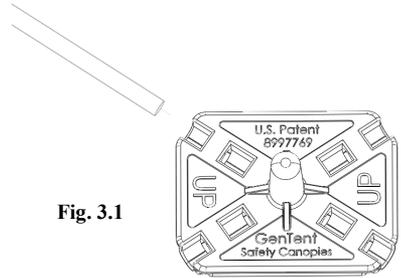

Fig. 3.1
- (Fig. 3.1) **Always insert the Frame Rod into the Center Connector before inserting it into the Extender Arms.**